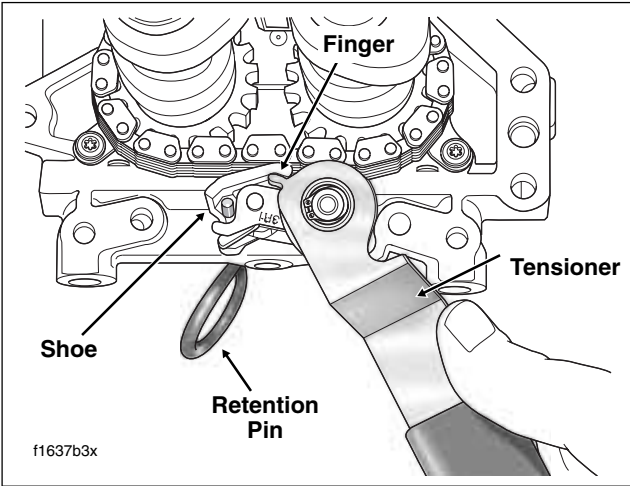

Figure 3-105. Retract Secondary Cam Chain Tensioner
- 1. Place cup of CAM CHAIN TENSIONER UNLOADER (HD-42313) over spring coil of secondary cam chain tensioner positioning finger on tool between tensioner and shoe. See Figure 3-105. Rotate tool in a counterclockwise direction inserting retention pin through hole in boss on **primary cam chain side** of cam support plate. Pin engages hooks on tensioner to hold it in the retracted position. For best results, place cam support plate in a vise using brass jaw inserts to prevent casting damage.